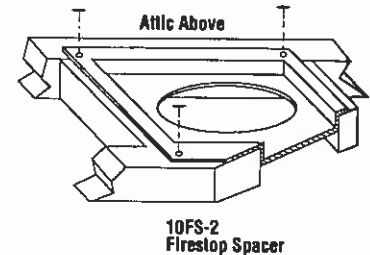
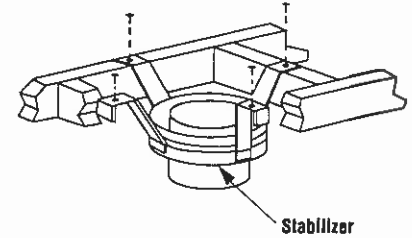

Figure 23
Figure 29
**Step 3.** Position appropriate firestop spacer at ceiling and nail temporarily with two (2) 8d nails. Use flat firestop spacer, Model 10FS-2, if chimney penetrates ceiling vertically. If chimney penetrates ceiling at 30° angle (offset chimney), use 30° firestop spacer, Model 10FS30-2. Use one nail on opposite sides to hold firestop spacer in position. Nail permanently, using at least two (2) more 8d nails, after chimney sections have been assembled through the firestop spacer and after any necessary adjustments have been made. Firestop spacer must be secured by at least four (4) 8d nails when completely installed.
**Note:** If there is a room above ceiling level, firestop spacer must be installed on the bottom side of the ceiling. If an attic is above ceiling level, firestop spacer must be installed on top side of ceiling joist (Figures 23 and 24).
1. Use Offset Chart to determine amount of horizontal offset (A) and height (B) for various chimney section assemblies.
3. Use Elevation Chart as job estimator only. Add necessary firestop spacers and stabilizers as required. Firestop spacers must be used as shown in Figures 23 and 24 and stabilizers as shown in Figure 29.